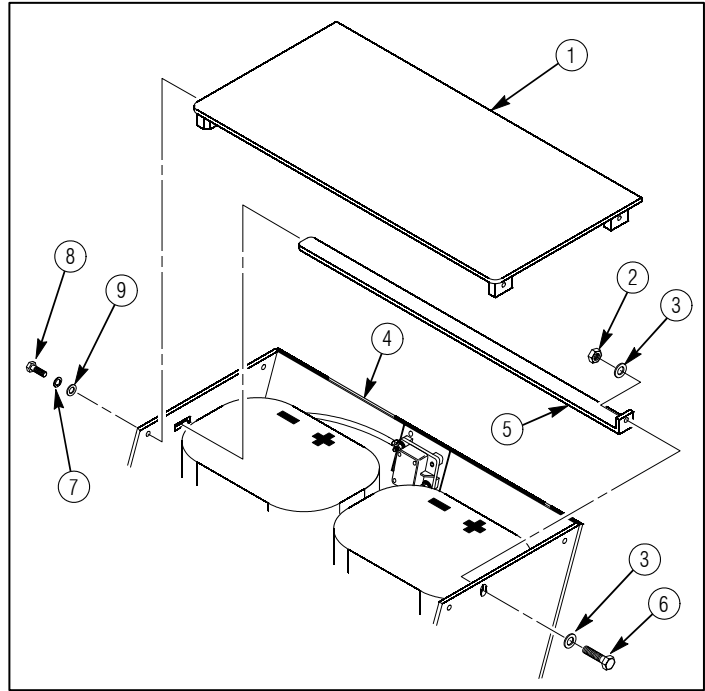

Figure 41
1. Slide 6432862-01M1 or 6432862-200M1 battery hold-down strap assembly (5) through slot in battery box assembly (4) and secure opposite end with one 4397000-034 capscrew (6), two 4397005-012 washers (3), and one 4397064-003 locknut (2) as shown in figure 41. Tighten locknut (2) to 21 lb-ft (28 N·m).
2. Install 6435453-01M1 or 6435453-200M1 battery box lid assembly (1) on battery box assembly (4) and secure with four 4397000-007 capscrews (8), 4397004-006 lockwashers (7), and 4397005-010 washers (9) as shown in figure 41. Tighten capscrews (8) to 10 lb-ft (14 N·m).